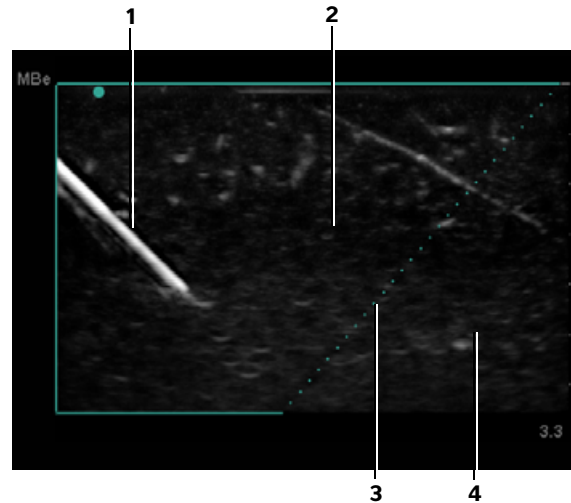

Figure 1 Image with MBe on (linear transducer):
- Note that linear structures are enhanced only in an outlined portion of the image. The area outside the outline remains unchanged. (See **Figure 1** on page 31.)
The MBe control turns on SonoMBe™ imaging, which enhances linear structures within a selected angle range and can facilitate needle guidance during catheter placement and nerve-block procedures. A three- or four-sided outline indicates the enhancement area. (See **Figure 1** on page 31.)